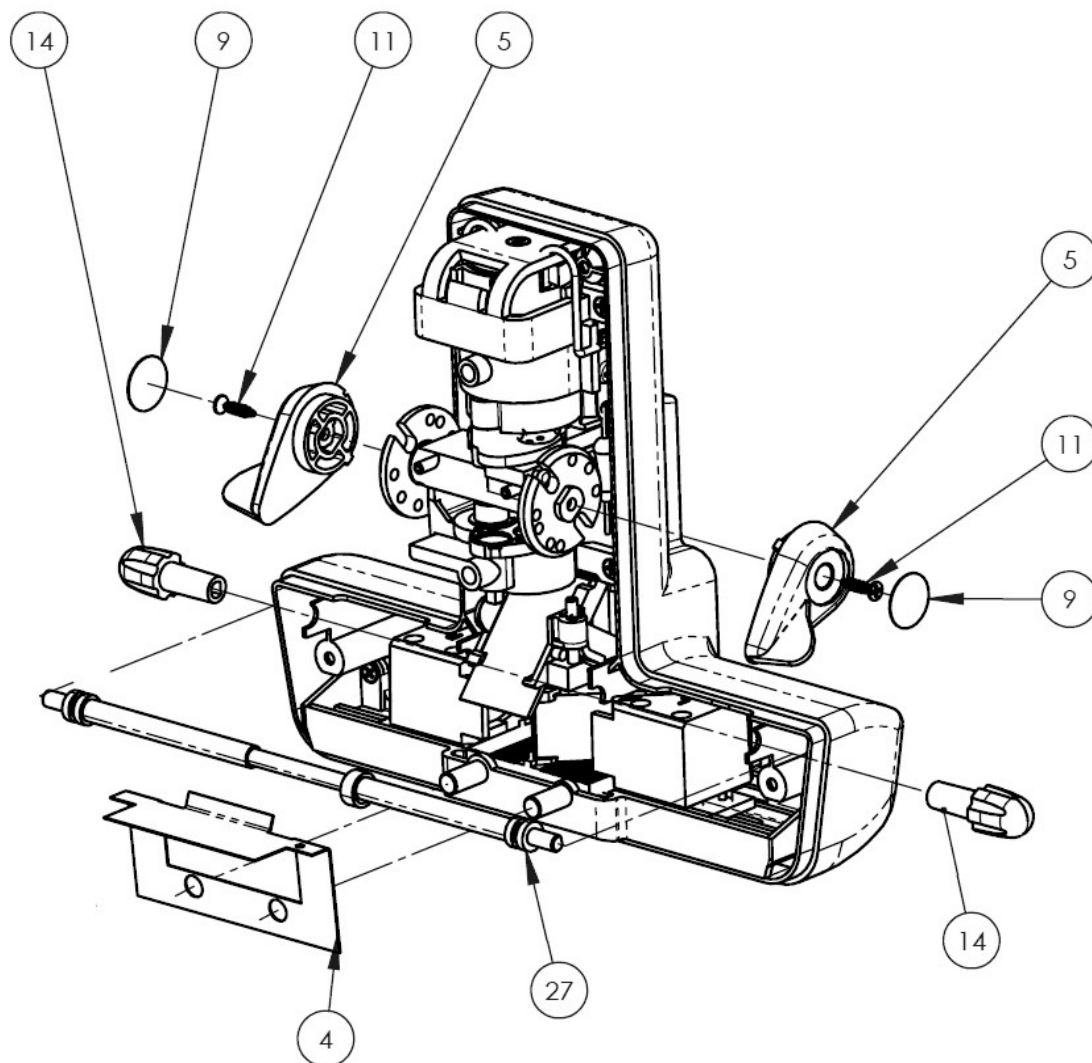

Figure 1
8. Carefully remove the Light Shield (Figure 1 - 4).
9. Remove the Mirror Spindle (Figure 1 - 27).
Refer to figure 1